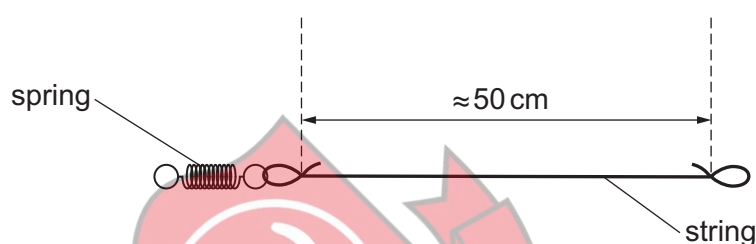

Fig. 1.2 (not to scale)
- 2 The spring should be attached to a string of approximate length 50 cm with loops of approximate circumference 6 cm at each end, as shown in Fig. 1.2.